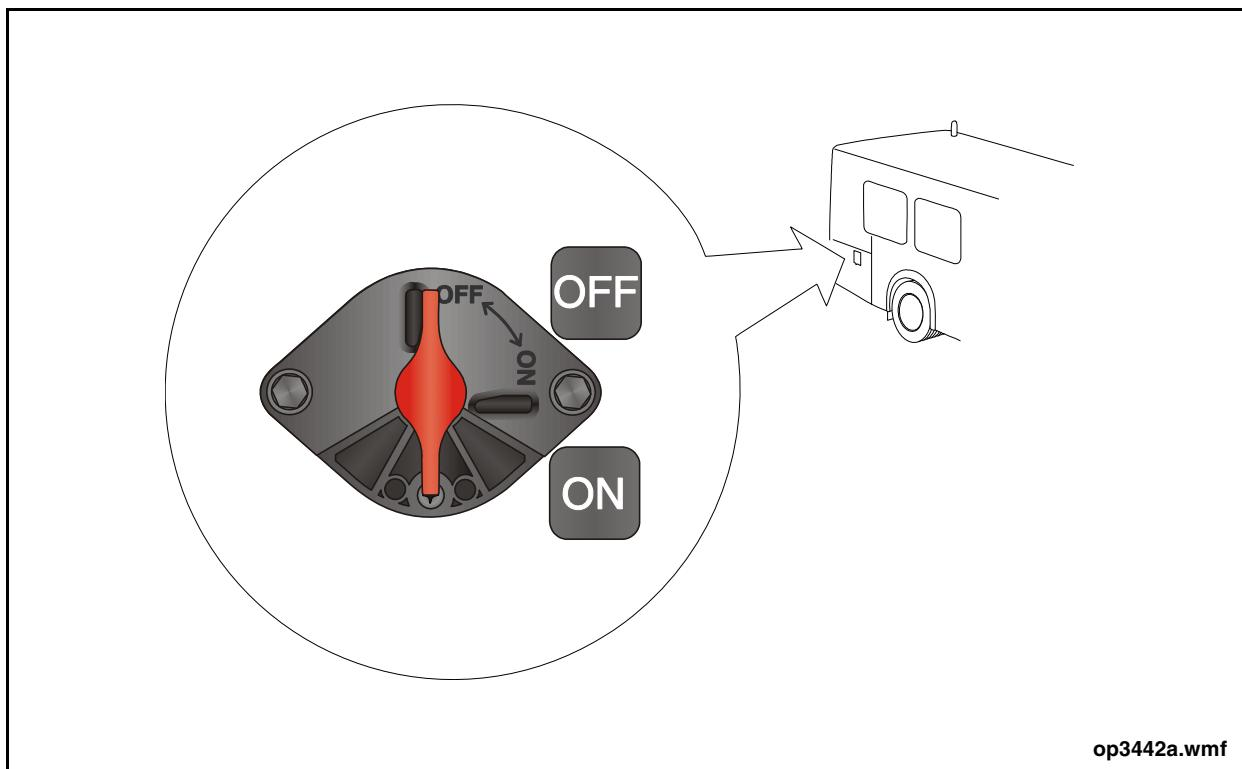

Fig. GI-2: Battery Disconnect Switch
9. Shut off all 12/24 VDC electrical power to the vehicle by setting the Battery Disconnect switch to the OFF position. See "Fig. GI-2: Battery Disconnect Switch" on page 9.